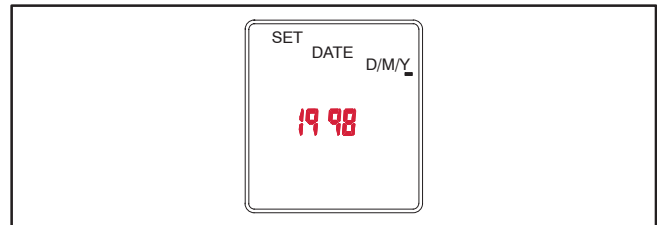

FIGURE 6. SETTING THE YEAR
- 2.. Press the selector button (⤴) to select **DATE** and then press the **OK** button. The current year is displayed flashing and D/M/Y is displayed with the "Y" underlined (see Figure 6).